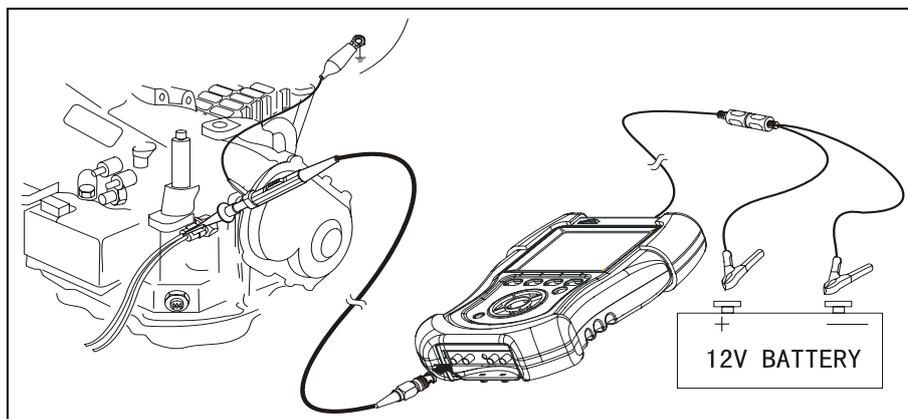

Fig. 3-15
When connecting KT600 to extension line for power supply, choose battery or cigar igniter as power supply according to the battery position of vehicle mode tested. All connecting diagrams in this users manual take power supply by battery as example. If choosing cigar igniter connector, confirm that cigar igniter has 12V battery voltage first. Connect test probe to Channel 1 (CH1 port), and then connect the small alligator clip on test probe to the negative of battery or grounding, pierce test probe into the signal line of ride height sensor. Connecting diagram is shown as Fig.3-15.
- Connect equipment according to Fig.3-15, start engine and apply driving gear;
1. Connect equipment according to Fig.3-15, switch on power supply switch of KT600;